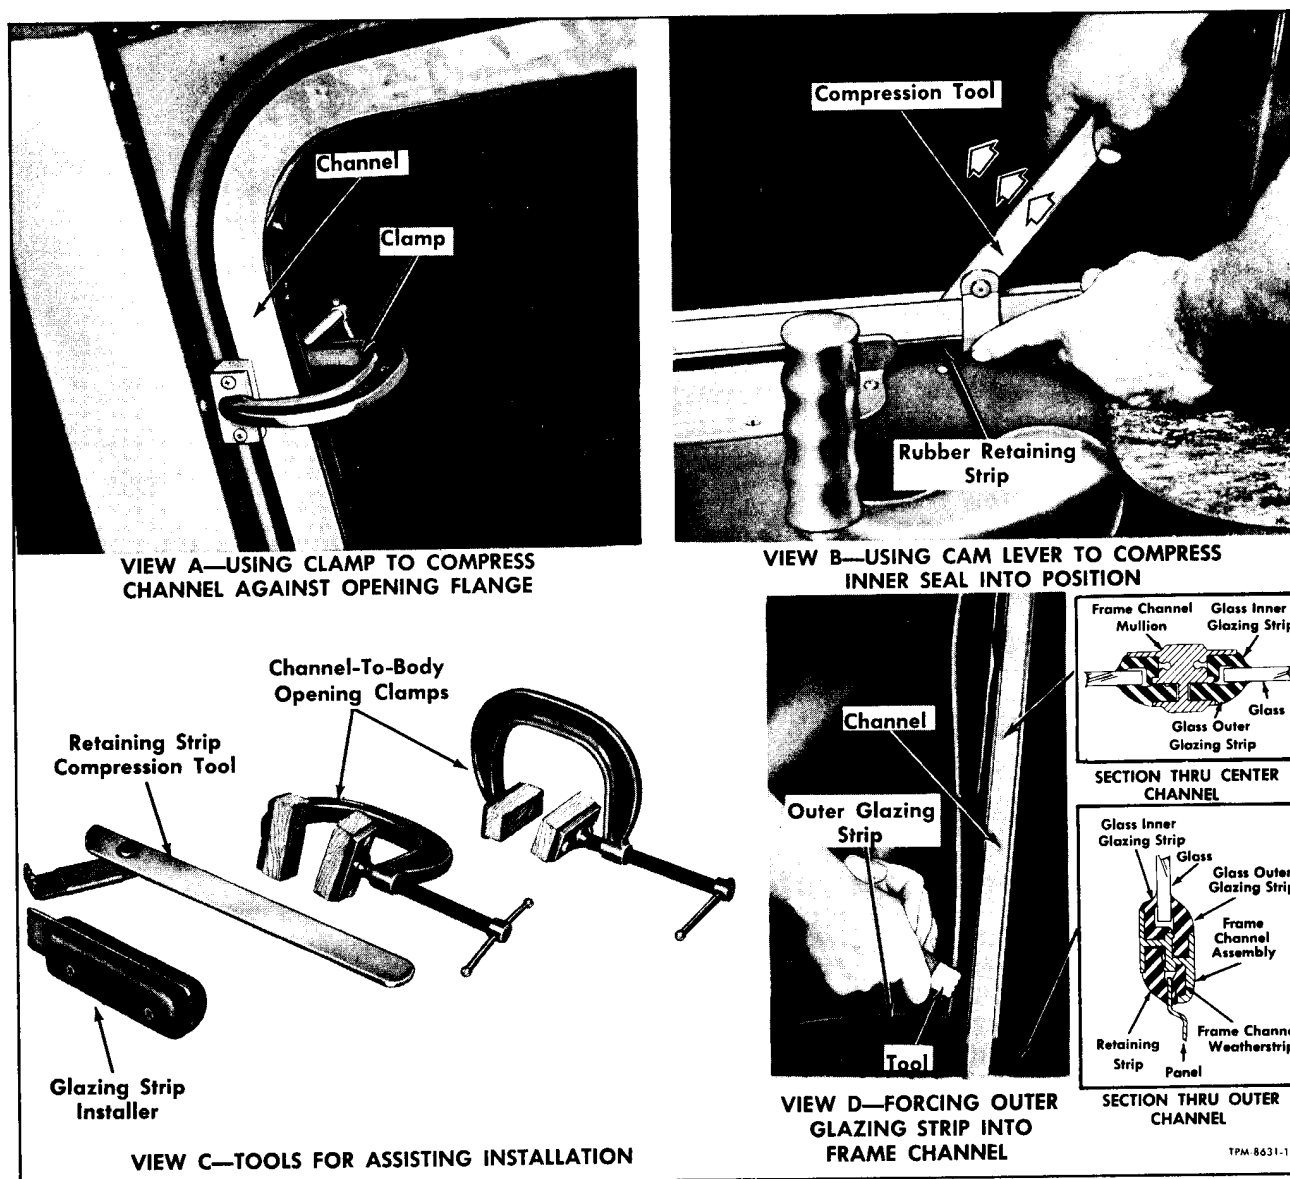

Figure 6—Windshield Glass Installation (Greyhound)
A special insert-type rubber retainer seal is used to install glass in standard windshield, destination sign and rear windows. Windshield and rear window glass sections are retained in body openings with bonded seal retainer assemblies which eliminate cutting of retainer to install glass. Although possible to install retainer and seal insert without use of special tool, seal and insert installer tool (J-2189) (fig. 6) is recommended to facilitate installation.
5. Thread end of rubber insert through handle and eye of seal installer tool (fig. 6). At point opposite joint in retainer seal, push tool eye and end of insert into seal groove. Feed into groove in retainer seal using a "hitching" motion to prevent elongation of insert.
NOTE: Refer to figure 6 which shows installation views.